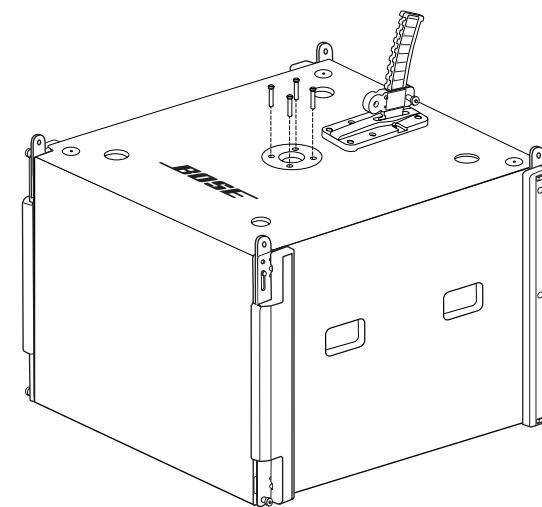

Fig. 5. Remove pole mount screws.
11. Remove the four screws connecting the pole mount to the top of the subwoofer. Do not remove the actual pole mount; see Fig. 5.